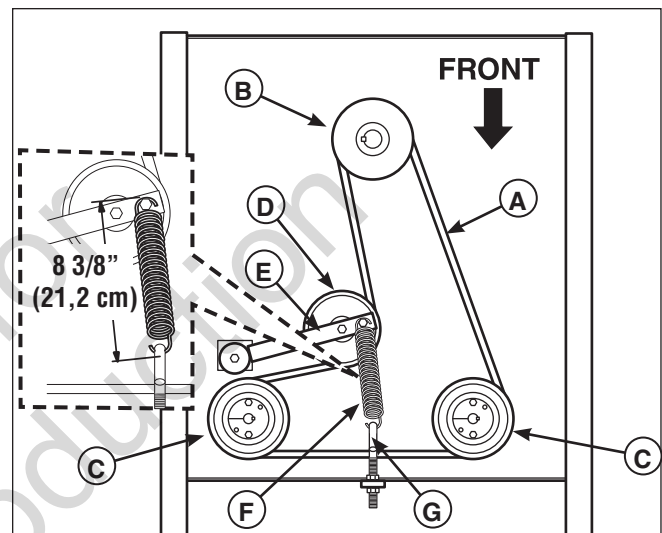

Figure 48. Hydraulic Pump Drive Belt Replacement
4. Loosen the nut towards the front of the machine on the spring anchor hook (G, Figure 48) to release the majority of the belt tension. Use caution and remove the nut to completely release the tension.
6. Reinstall the anchor hook (G) into the anchor tab and loosely fasten the nut. Adjust the anchor hook until a measurement of 8-3/8" (21,2 cm) is achieved from the outside if the spring hooks. Tighten nut.